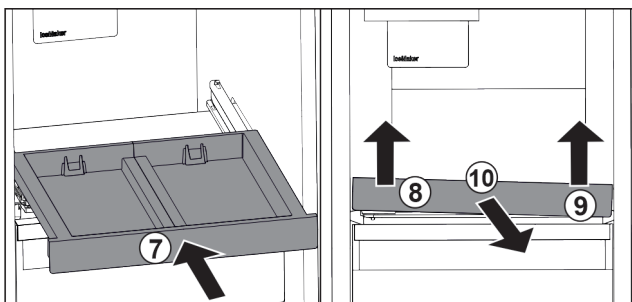

Fig. 82
- ▶ Slide in the pull-out board. Fig. 82 (7)
- ▶ Lift the pull-out board on the front left. Fig. 82 (8)
- ▶ Lift the pull-out board on the front right. Fig. 82 (9)
- ▶ Take out the pull-out board to the front. Fig. 82 (10)